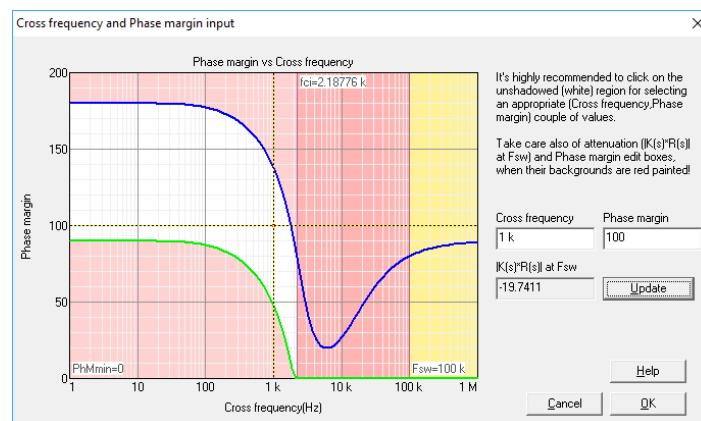

Figure 8: outer loop solution map
- Solution map: select $f_c=1\text{kHz}$ and $\text{PM}=100$ degrees. See Figure 8.